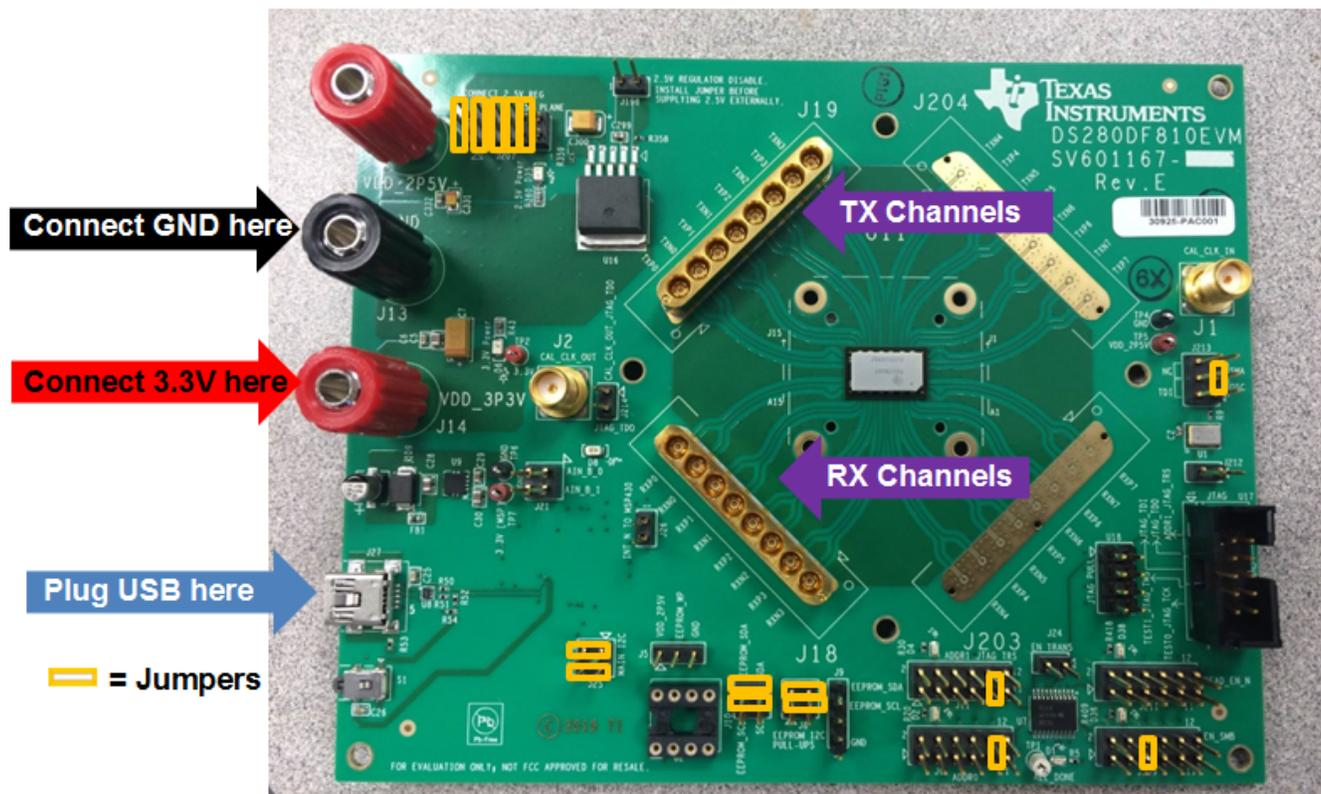

Figure 1. DS280DF810EVM, Showing Necessary Connections for Power, Signal, and USB Communications
1. Check the EVM jumper settings to ensure they match Figure 1 below.